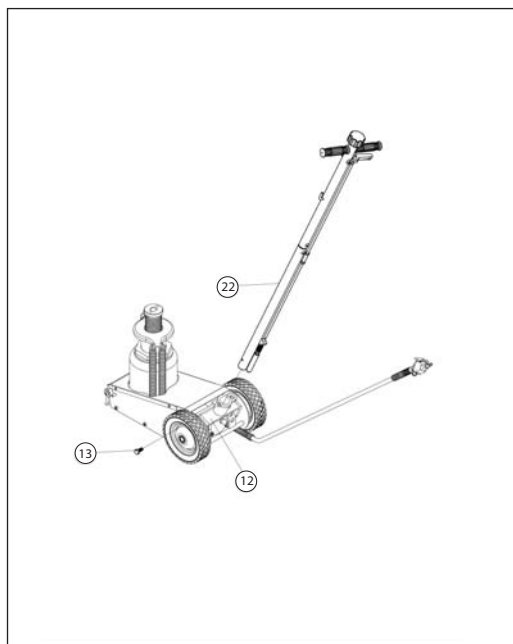

Figure 2
2. Insert Handle (22) into the Handle socket (12) and secure with bolt (13). (See figure 2 below)
3. Adapter bracket mounts to handle by sliding the U-Bolts (24) around the handle assembly (22) and securing with nuts (25). Adapters (26, 27 and 28) can be stored here for convenience.